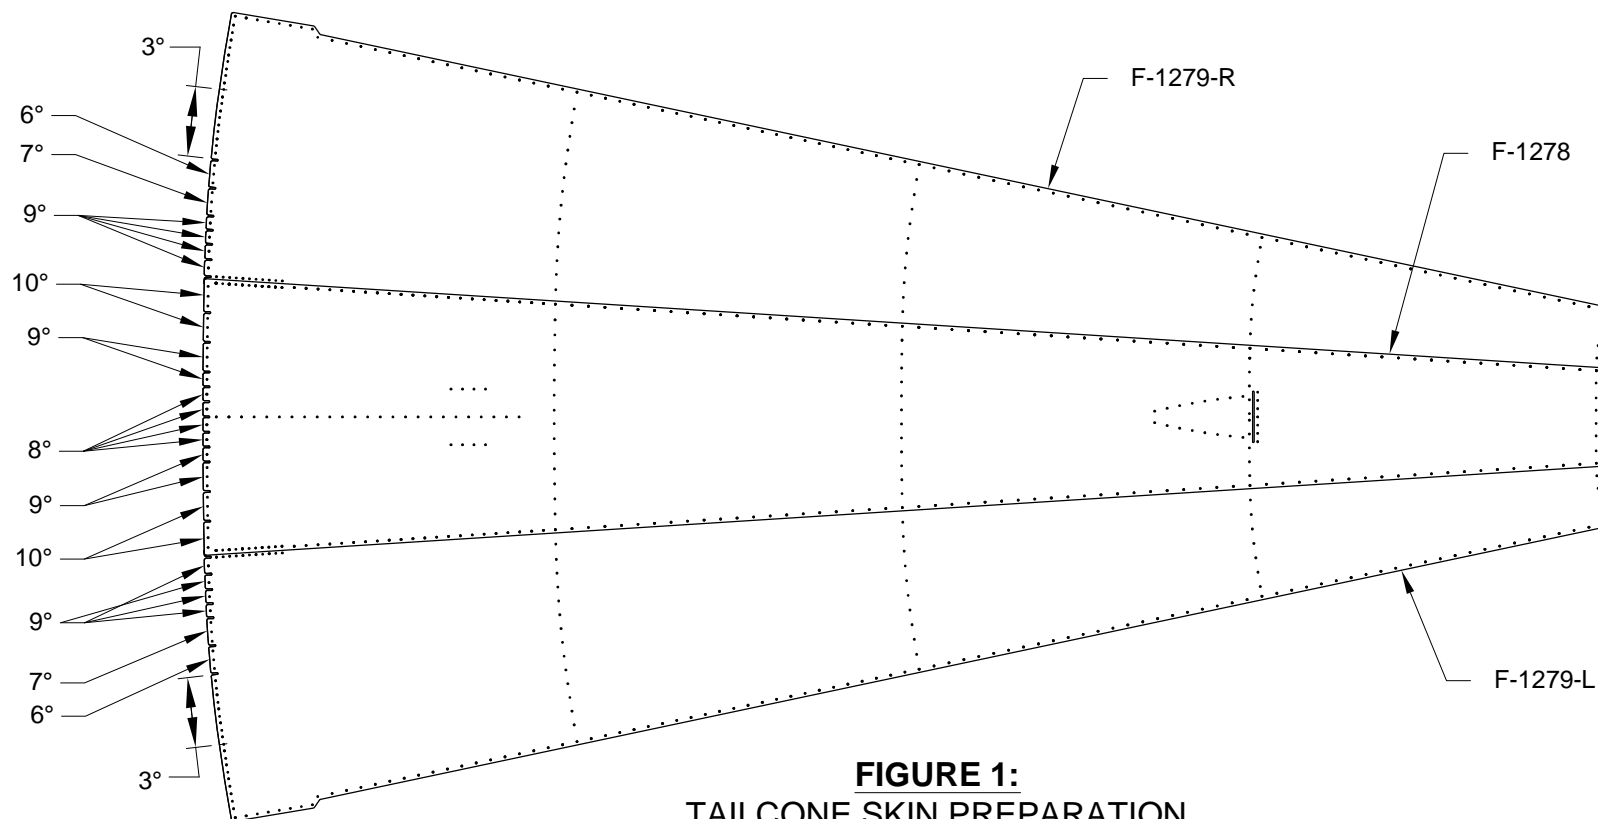

FIGURE 1:
Step 1: Retrieve the bending tool that was fabricated on Page 17-06 and bend the forward tabs on the F-1278 and F-1279-L & -R per the angular dimensions given in Figure 1. All tabs are bent outboard.